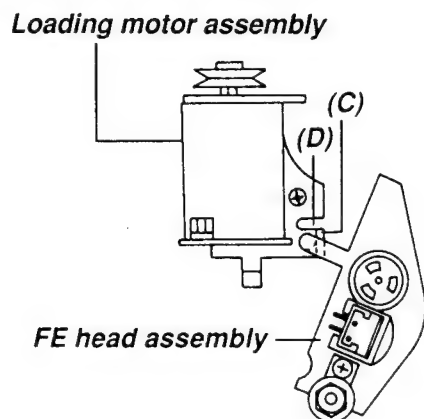

Fig. 4-4-2
- Confirm that inlet lever is in the position which is shown in Fig. 4-4-2.
(5) Impedance roller replacement